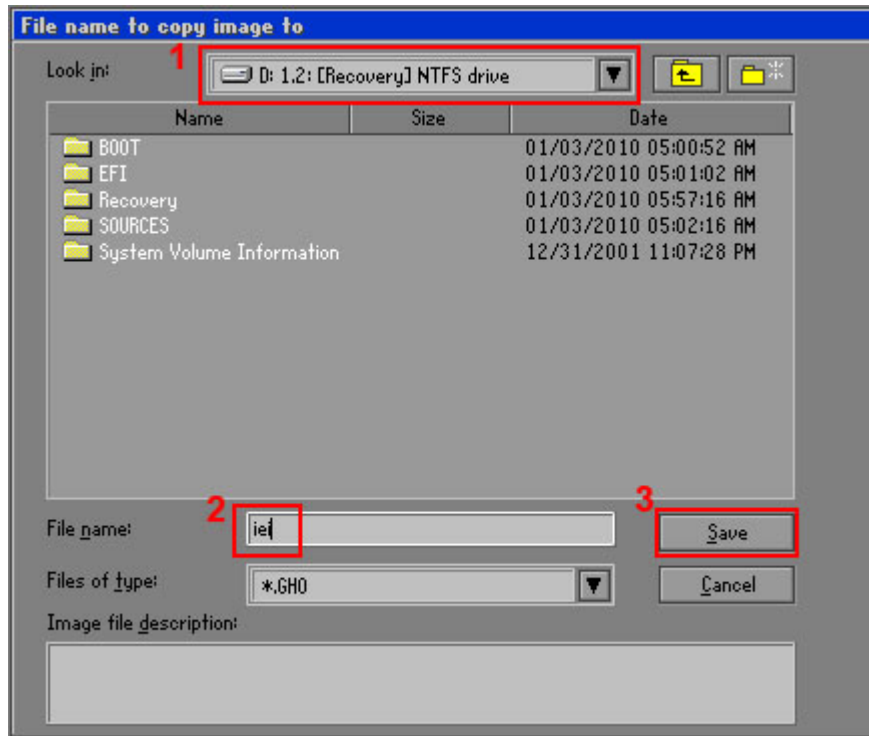

Figure C-16: File Name to Copy Image to
Step 7: Select 1.2: [Recovery] NTFS drive and enter a file name called **iei** (Figure C-16). Click **Save**. The factory default image will then be saved in the selected recovery drive and named IEI.GHO.